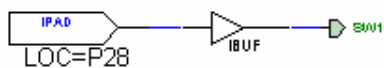

Figure 4.2
- Add an input pad with its input buffers, and constraint it to SW1 (P28) as shown in Figure 4.2.